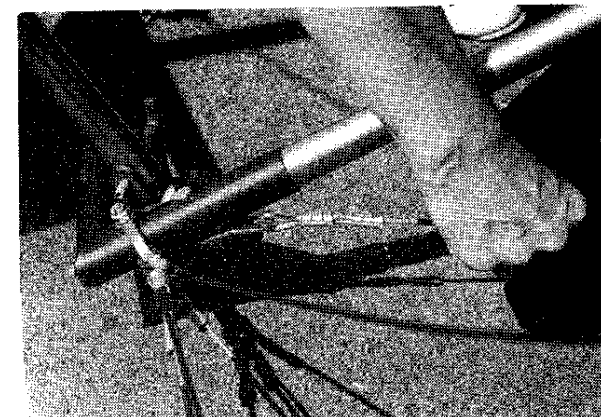

Figure 2.32
38. Check all wire ends for jammed or twisted ends, especially the lower nose, wires at triangle bar junctions. Correct as necessary. **Figure 2.32**